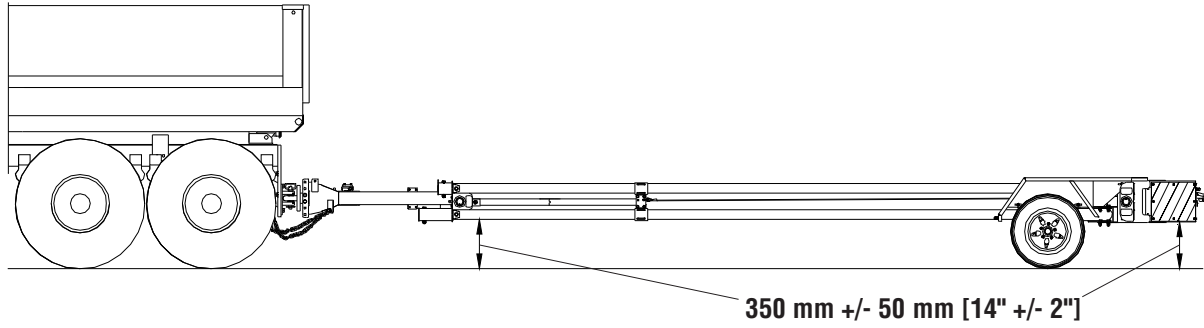

Figure 4
3. The TMA should be securely fastened to the truck. On level ground, the bottom of the TMA should be 350 mm +/- 50 mm [14" +/- 2"] from the ground and level (see Figure 4).